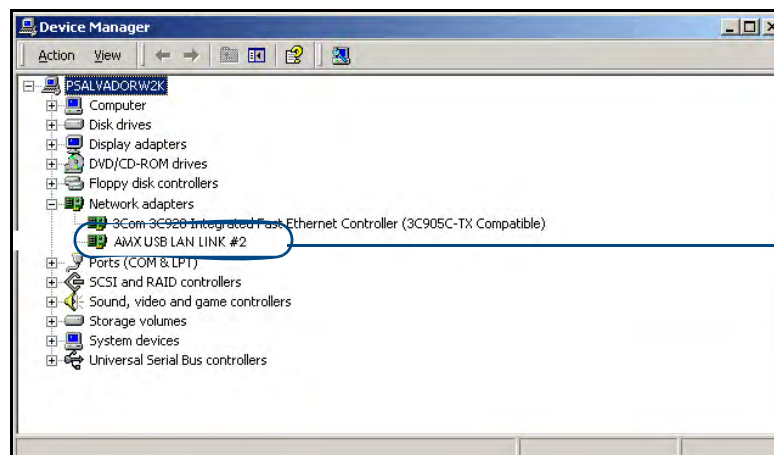

FIG. 82 Device Manager dialog showing USB device
- Within the *Device Manager* dialog, the AMX USBLAN device appears under Network Adapters (FIG. 82) and has a unique name such as AMX USB LAN LINK #2. The number changes depending on which recognized panel is currently connected.